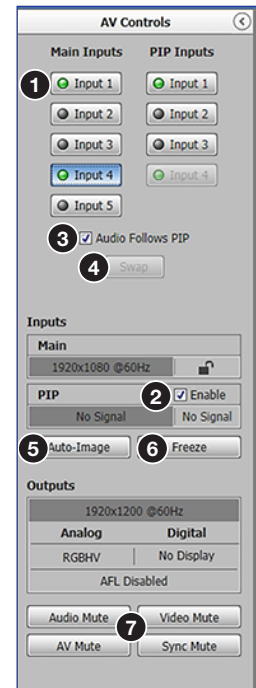

Figure 48. AV Controls Panel
Click an **AV Input** button (1-5) (see figure 48, ❶) to select that input. As the new input is selected, the summary within the panel changes to reflect the new input and output status.